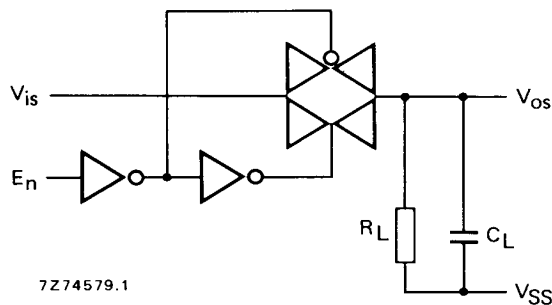

Fig. 7.
3. $R_L = 10\text{ k}\Omega$; $C_L = 15\text{ pF}$; $E_n = V_{DD}$; $V_{is} = \frac{1}{2} V_{DD(p-p)}$ (sine-wave, symmetrical about $\frac{1}{2} V_{DD}$); $f_{is} = 1\text{ kHz}$; see Fig. 7.
$20 \log \frac{V_{os}}{V_{is}} = -50\text{ dB}$; see Fig. 7.
$20 \log \frac{V_{os}}{V_{is}} = -3\text{ dB}$; see Fig. 7.